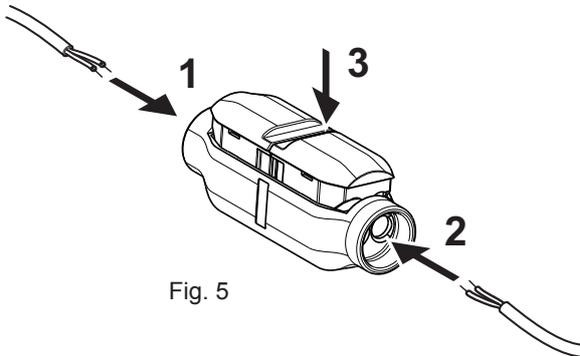

Fig. 5
11. Press the connector together to retain and connect the cables (Fig. 5).